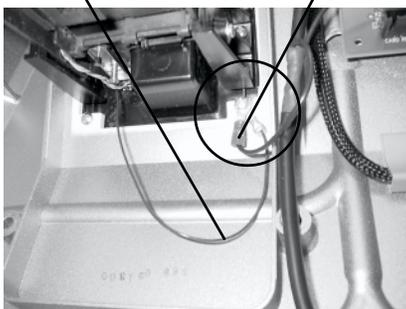

Figure 5. Connect Grounding Strap to Card Reader mounting screw and grounding wire.
5. Connect the **fourth ring terminal** to the Card Reader mounting screw. If the card reader has an attached grounding wire, ensure the terminal lug on this wire is secured to the same point as the grounding strap ring terminal, as shown in Figure 5.